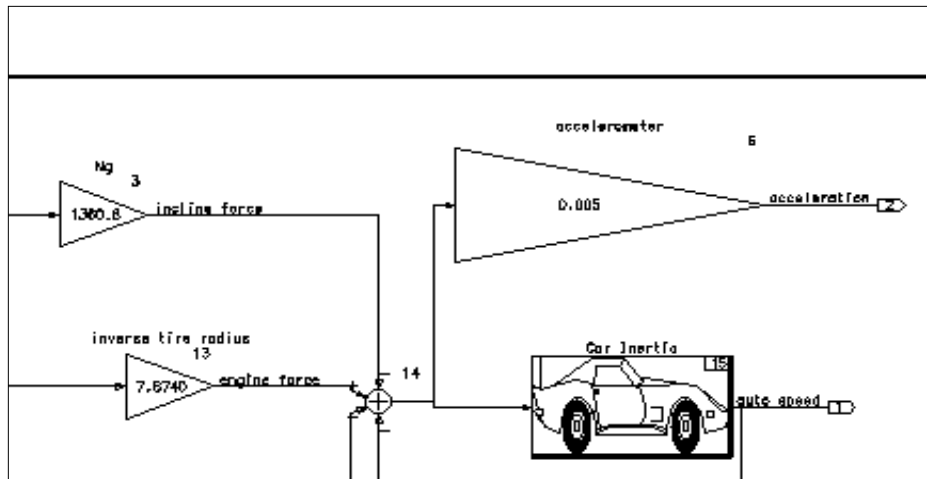

FIGURE 16-3 Attaching a Custom Icon by Drag-and-Drop
3. When the Special Icons palettes appear, drag the automobile icon until it is just centered over the Car Inertia block. To perform the centering accurately, you may want to select the Car Inertia block first, so that you can see the exact block outlines. See Figure 16-3 for this method.
4. As can be seen from Figure 16-3, the icon, once dropped in place, may appear distorted. Press and hold to grab the ID area in the upper right corner and pull in any direction necessary to correct the distortion.